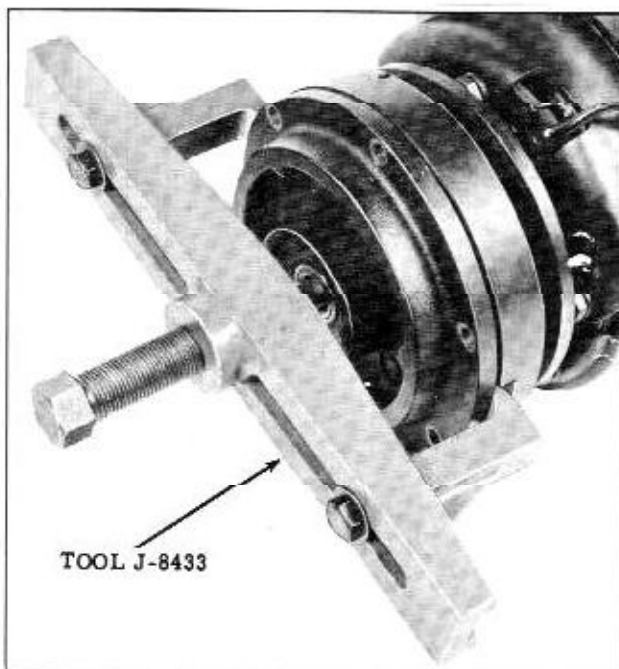

Fig. 14-25 Removing Clutch Pulley Hub
2. Remove 6 pulley hub to clutch cover bolts, using Tool J-8433 to remove hub assembly. (Fig. 14-25)
1. Remove clutch pulley hub assembly. (Fig. 14-25)